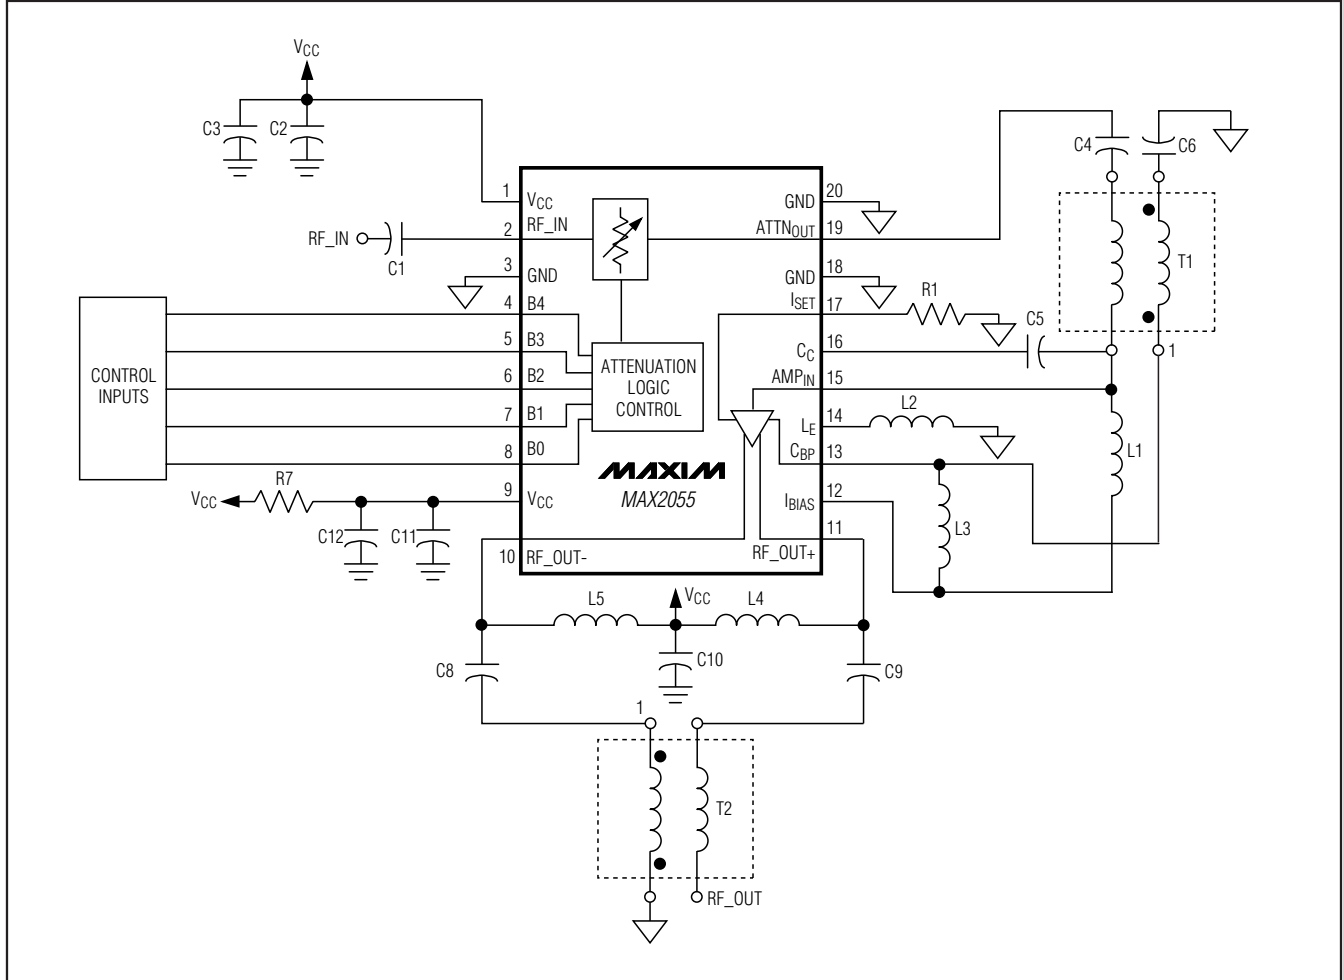

Figure 1. Typical Application Circuit
**Note 2:** All limits reflect losses of external components. Output measurements are taken at RF\_OUT using the application circuit shown in Figure 1.
(Circuit of Figure 1,  $V_{CC} = 5.0V$ ,  $R_1 = 1.13k\Omega$ , max gain ( $B_0 = B_1 = B_2 = B_3 = B_4 = 0$ ),  $P_{OUT} = 5dBm$ ,  $T_A = +25^\circ C$ , unless otherwise noted.)
**Table 1. Suggested Components of Circuit of Figure 1**